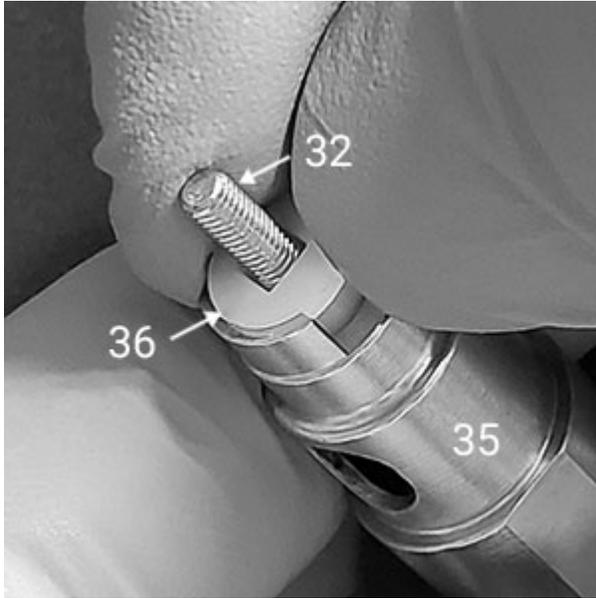
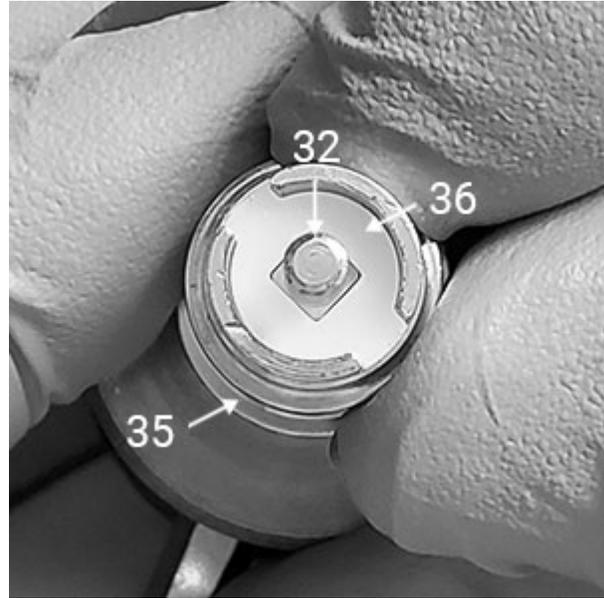

Fig. 41
Fig. 42
11. Drop the seat assembly and spring into the Valve Housing (35), threaded end down. Thread the Spider 2 tool into the Valve Housing and screw it in until the square portion of the Stem protrudes from the top of the Valve Housing.
12. Drop the Housing Insert (36) onto the protruding stem threads, round end down. Rotate the Housing Insert until its square broach engages the Stem. Rotate both the Housing Insert and Stem until the tabs of the are aligned - Fig. 41. Push the Insert fully into the Housing - Fig. 42.